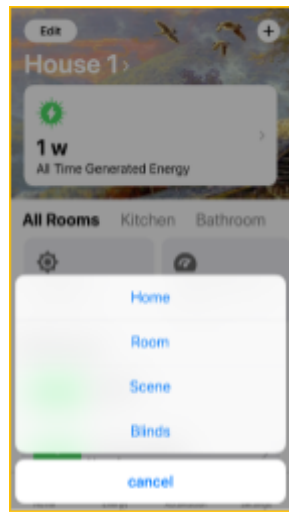

Figure 44
**10.10.2.** Select **Scene** from the menu options (Fig. 44).